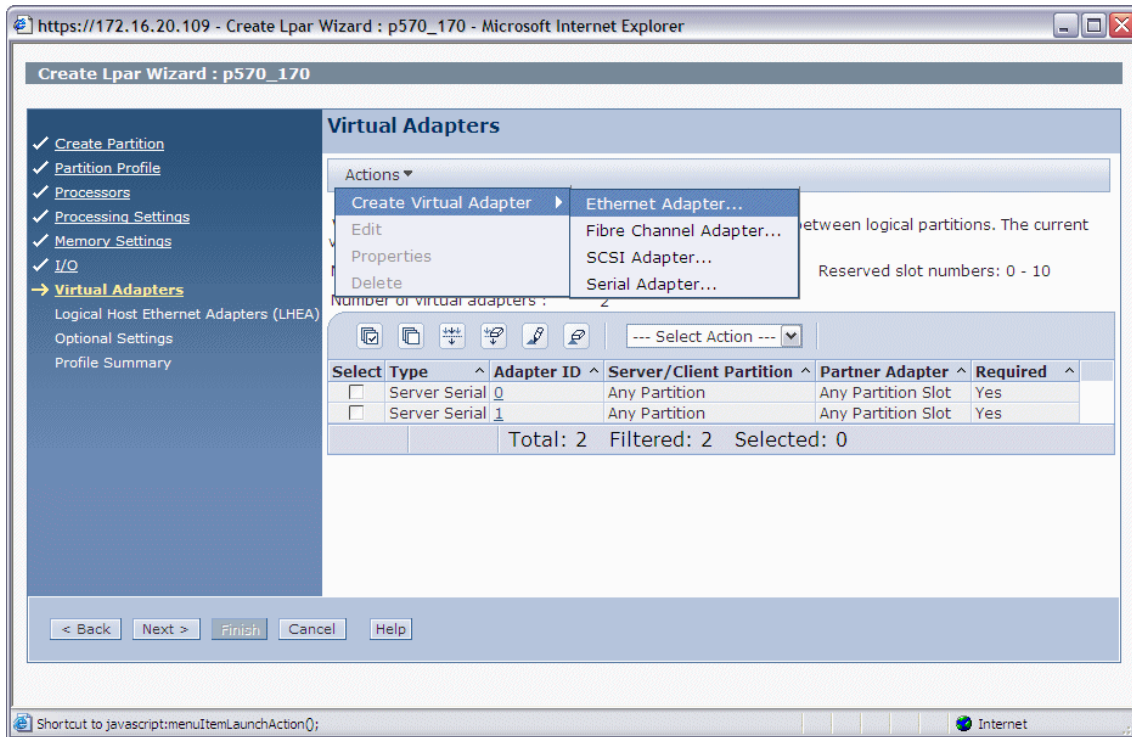

Figure 12-11 HMC Selecting to create a virtual Ethernet adapter
- Click **Actions** and select **Create Virtual Adapter** → **Ethernet Adapter** as shown in Figure 12-11 to open the Create Virtual Ethernet Adapter window.